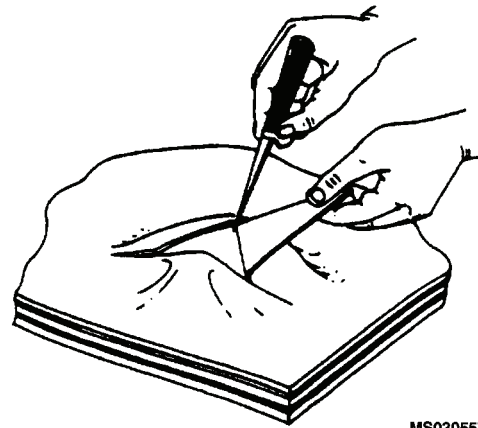

Figure 2-24. Removing Outer Coating.
(1) Use knife and trim away loose, damaged or blistered outer coating (figure 2-24), except for loose fitting flange repair.
(a) Use knife and trim away loose, damaged or blistered outer coating edges (figure 2-24).